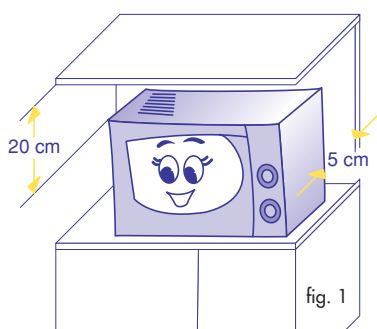

fig. 1
- 1) After having removed the oven from its box, check to make certain that the turntable spindle (D) is correctly fitted into its housing. Place the turntable support (G) in the middle of the cooking chamber and set the turntable (F) on top of it. The spindle (D) must be inserted in the related turntable housing.
- 4) **After having placed the oven on its work level, make sure that there is still a free space of at least 5 cm. between the oven's surfaces and the side as well as back walls, and a free space of at least 20 cm. above the oven (see Fig. 1).** Also check to make sure the feed cord is not touching the appliance's rear wall, because the wall itself can get very hot while the grill is being used.